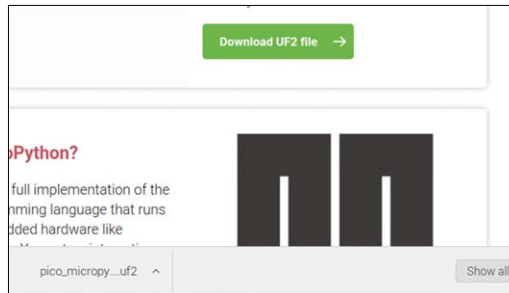

Figure 2.4: Download the UF2 file.
- Click on the **Getting started with MicroPython** tab and click **Download UF2 file** to download the **MicroPython** firmware. You should see the downloaded file at the bottom of the screen. This will take only a few seconds (Figure 2.4).